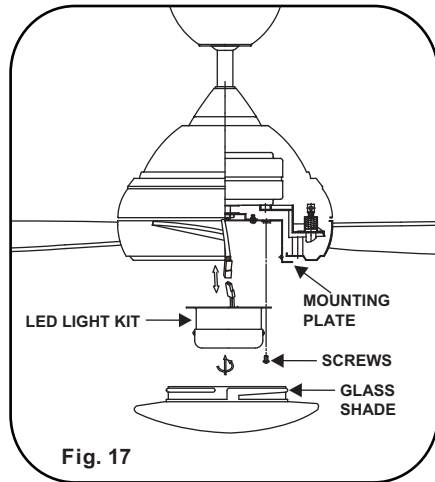

Fig. 17
3. Place the key holes in the LED light kit over the two mounting screws previously loosened from the mounting plate. Turn the LED light kit until the LED light kit locks in place at the narrow section of the key holes. Secure by tightening the two screws previously loosened and the one previously removed. (Fig. 17)
4. Raise the glass shade (or metal light cover) up against the mounting plate and secure it to the fan by turning the glass shade clockwise until snug. **DO NOT OVERTIGHTEN.** (Fig. 17)